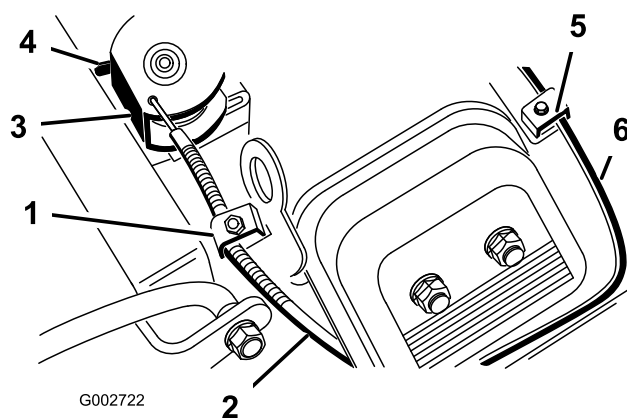

Figure 38
2. Loosen the throttle cable-clamp screw securing the cable to the engine (Figure 38).
4. Pull firmly on the throttle cable until the back of the swivel contacts the stop (Figure 38).
2. Loosen the choke cable-clamp screw securing the cable to the engine (Figure 38).
4. Pull firmly on the choke cable (Figure 38) until the choke butterfly is completely closed; then tighten the cable-clamp screw.